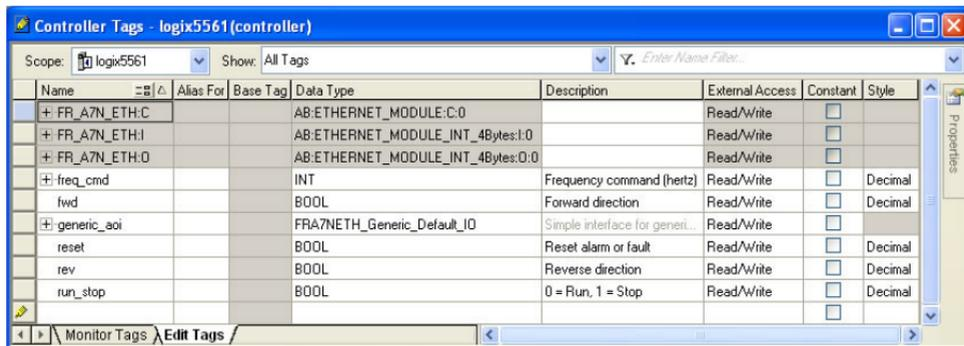

Figure 84: Create Generic Default AOI Tags
- Create the tags in Figure 84.